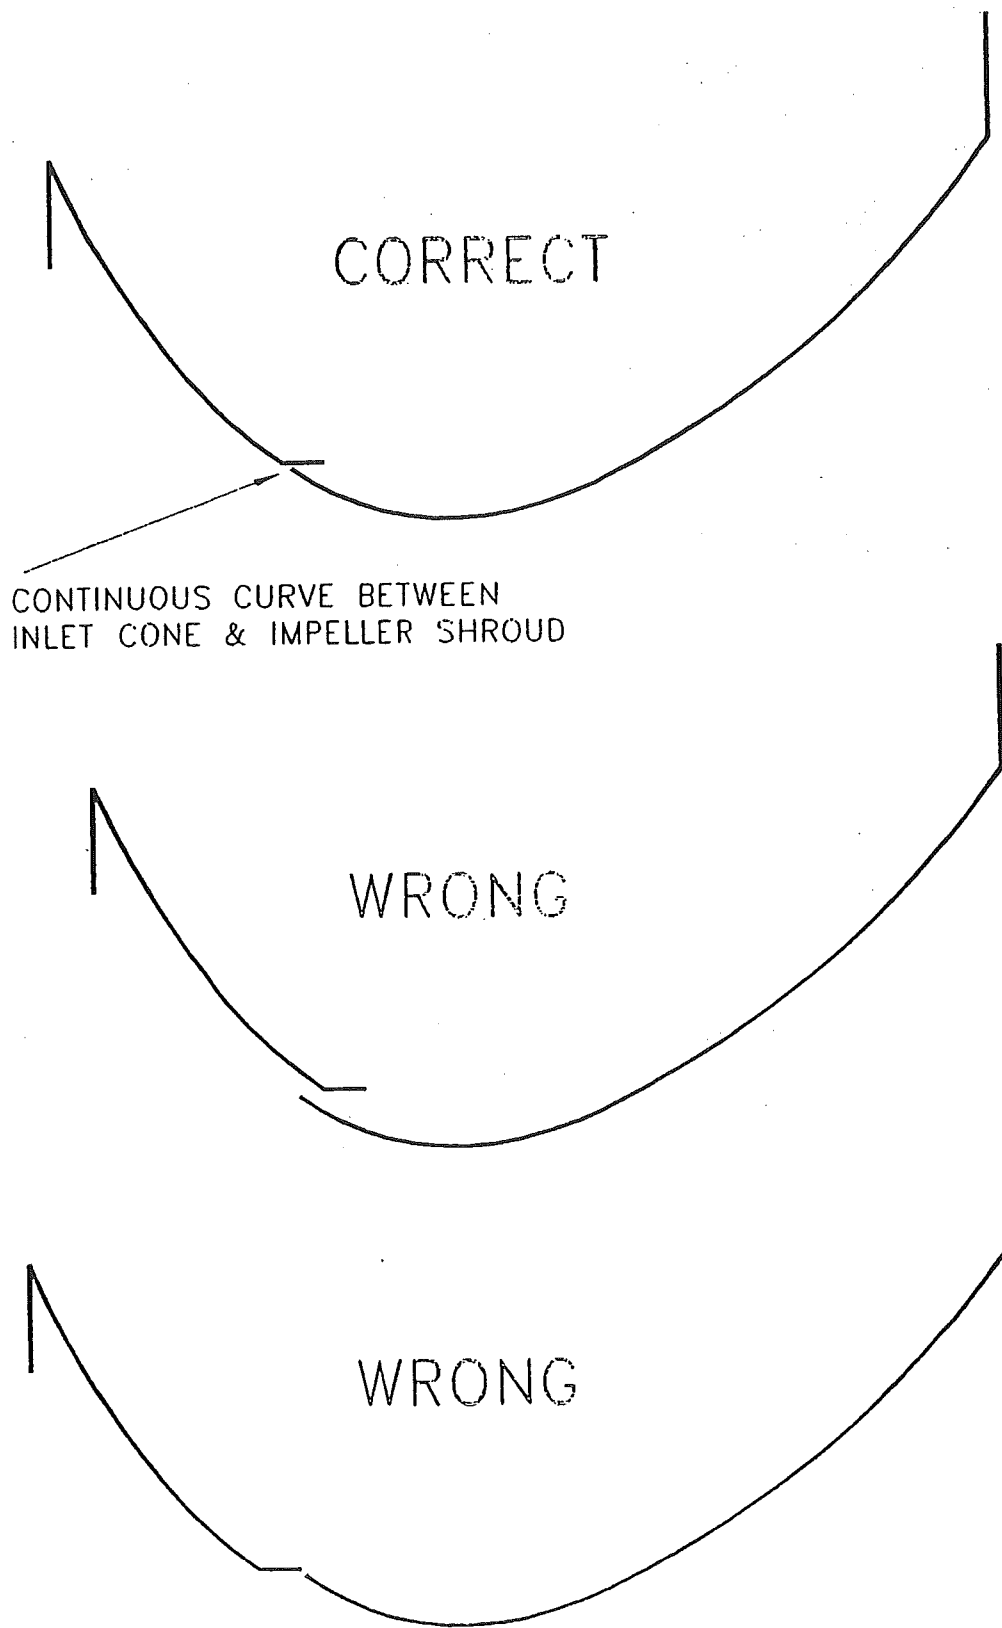

FIG.3 EUROPA BA AND BL CONE SETTING
- On high efficiency fans such as the Europa BA and BL range, it is essential that the axial relationship of the impeller and cone is correct, otherwise the fan performance will be adversely affected. See Fig.3 page 8.